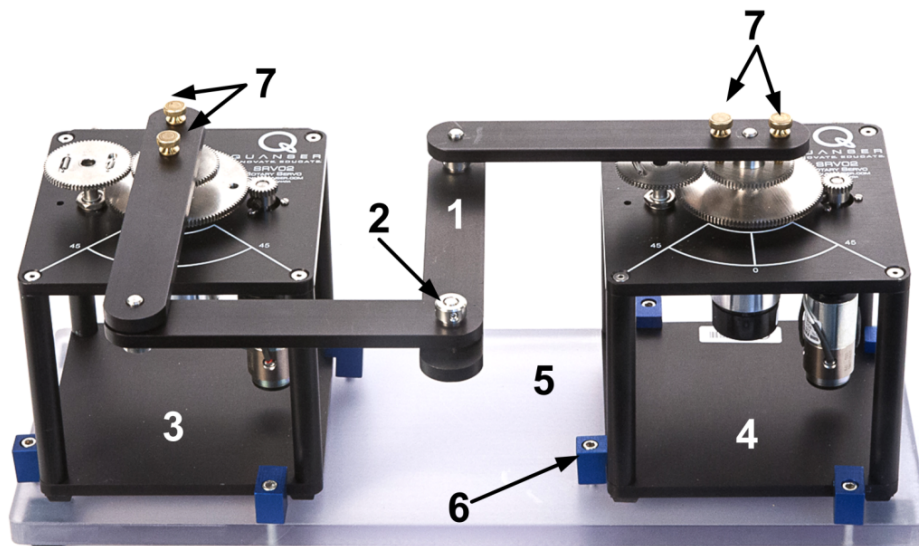

Figure 2.1: 2 DOF Robot System
The components of the 2 DOF Robot system are listed in Table 2.1 and labeled in Figure 2.1, below
1. Place the two Rotary Servo Motor (SRV02) systems onto the support plate, ID #5 in Figure 2.1, above, and as shown in Figure 4.1a.
4. Tighten both thumbscrews, ID #7 in Figure 2.1, to fasten the links onto the load shaft of the servo units.